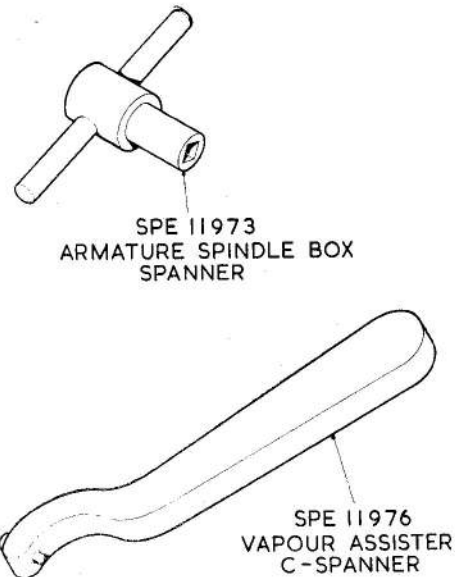

Fig. 9. Vapour assister dismantling and assembling tools
9. (1) Hold the end of the armature shaft (34) with the box spanner SPE.11973 (fig. 9) and use the C-spanner SPE.11976 (fig. 9) to unscrew and remove the vapour assister assembly (7) complete with the impeller helix (6). These last two components are held together by peening of the vapour assister assembly; further dismantling is not necessary as both parts should be renewed if external damage is observed.
(3) Carefully mark the position of the brush box assembly (17) in relation to the upper motor casing (28). Remove the two 4 BA brush box securing screws (21) with spring washers (22) and remove the brush box retainer (23) leaving the brush box free on the commutator.
(4) Hold the square section of the armature shaft with the special box spanner SPE.11973 (fig. 9). Remove the commutator-end shaft nut (24) together with the 2 BA plain washer (25). Carefully mark the positions of the upper and lower motor casings, relative to the motor casing and yoke assembly.
(5) Remove the four 4 BA tie rod nuts (20) together with the spring
(6) Remove the brush box assembly (17).
(7) Ease the lower motor casing (36) from the motor casing/yoke assembly (35) and gently withdraw the armature assembly complete with the motor end casing. Take care not to damage the armature during the operation.
(8) Hold the square end of the armature assembly with the special box spanner SPE.11973 (fig. 9), then remove the thrower assembly (11 and 13), using a $\frac{3}{8}$ " B.S.W. spanner on the two machined flats. Tap the driving end of the armature shaft until it is free from the bearing and lower motor casing.